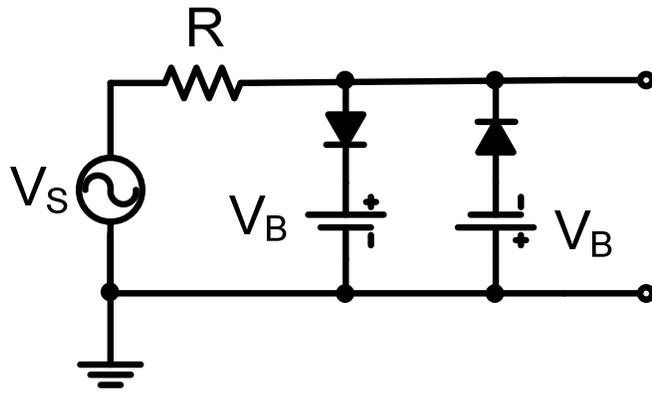
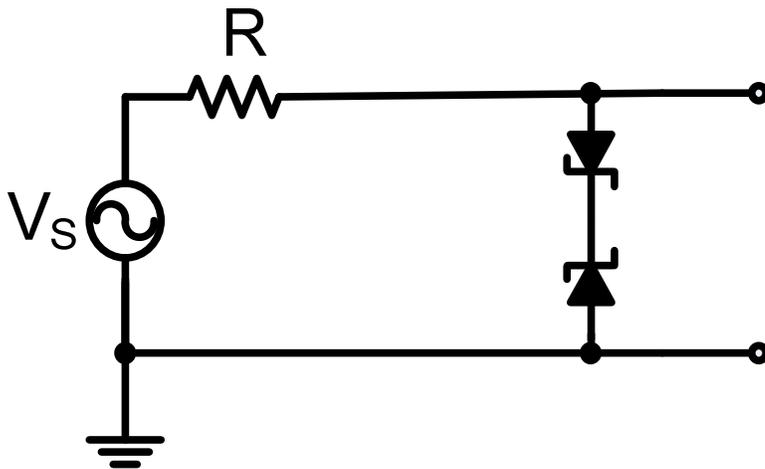

Fig. 3
Fig. 4
Clipping circuits are used in applications where an input voltage should not be allowed to exceed a maximum value, and also in wave shaping of signal (function generation). A typical one is shown in Fig. 3. The same result can be obtained with the circuit of Fig. 4 using two back to back Zener diodes.
B) Determine the transfer characteristics of the circuits in Fig. 3 and Fig. 4. Draw the output waveforms assuming that the input is a sinusoid with sufficiently larger amplitude (larger than both reference voltages or the Zener voltages) amplitude.
a) Connect the circuit in Fig. 3. Let the input be a sinusoid of frequency 1 kHz. Display the input and output waveforms on the oscilloscope. Vary the amplitude of the input and observe the result. Display the V_{out} vs. V_{in} transfer characteristics of the circuit on the oscilloscope. Change the input waveform to a triangular or square waveform and see what happens.
b) Repeat the same steps for the circuit in Fig. 4. Note that the Zener breakdown voltage of 1N5234 is about -6.2 V and Zener diode's forward turn-on voltage is about 0.65 V. Your input voltage may change to 20 V peak to peak to provide sufficiently larger amplitude.